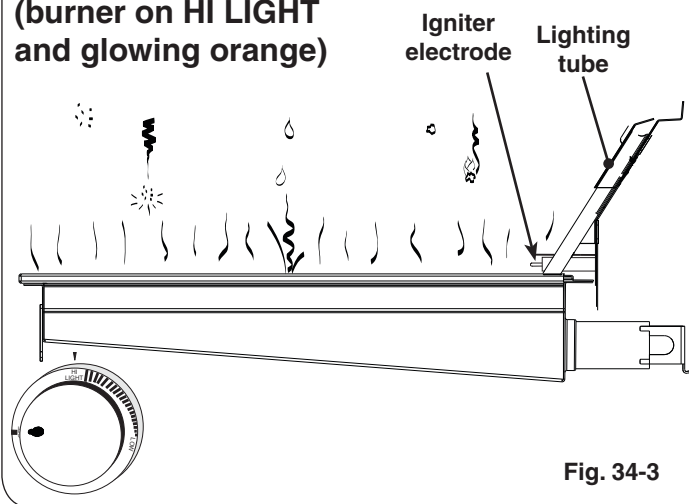

Fig. 34-3
- **DO NOT place food on the cooking grid until the IR burner glows orange (Fig. 34-3).** Drippings are heated and evaporate instead of sticking to and impairing burner function.